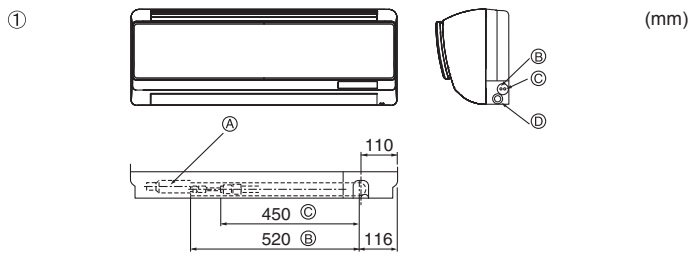

Fig. 4-2
- ① Position of refrigerant and drain piping (Fig. 4-2)
- (A) (Effective length: 640)
- (B) Liquid pipe
- (C) Gas pipe
- (D) Drain hose